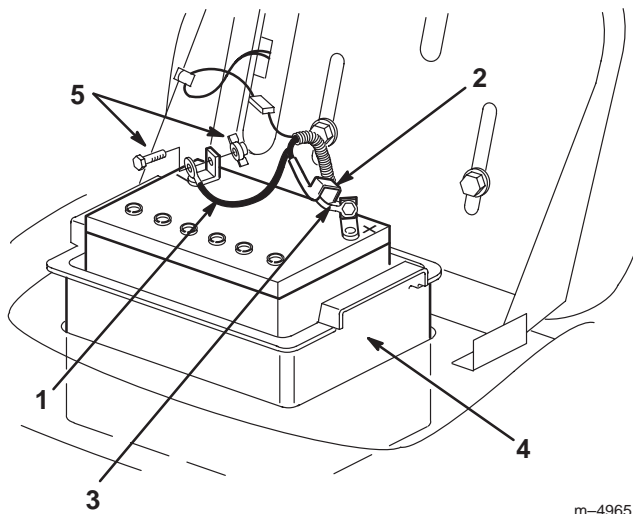

Figure 16
3. Disconnect the negative (black) ground cable from the battery post (Fig. 16).
4. Slide the rubber cover up the positive (red) cable. Disconnect the positive (red) cable from the battery post (Fig. 16).
5. Remove the battery box and battery from the chassis (Fig. 16).
1. Put the battery into the battery box and install into the chassis (Fig. 16).
2. Using the bolt and wing nut, connect the positive (red) cable to the positive (+) battery post (Fig. 16). Slide the rubber cover over the battery post.
3. Using the bolt and wing nut, connect the negative (black) cable to the negative (-) battery post (Fig. 16).